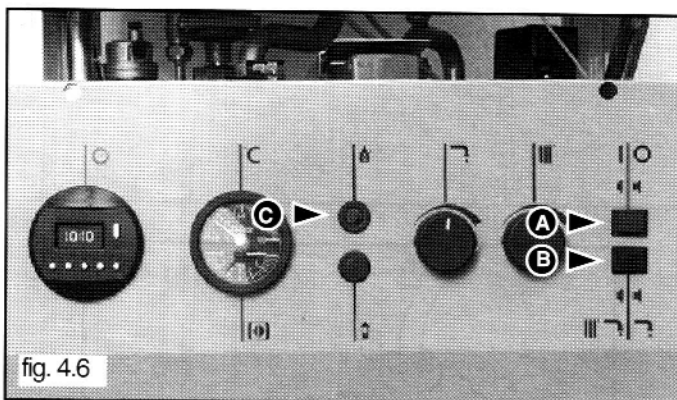

fig. 4.6
then check electrical connections) (see fig. 4.6).
- 2 Select heating mode by setting button "B" to heating mode (see fig. 4.6).
To reset the boiler, depress the reset push button "C" marked with the symbol  (see fig. 4.6).